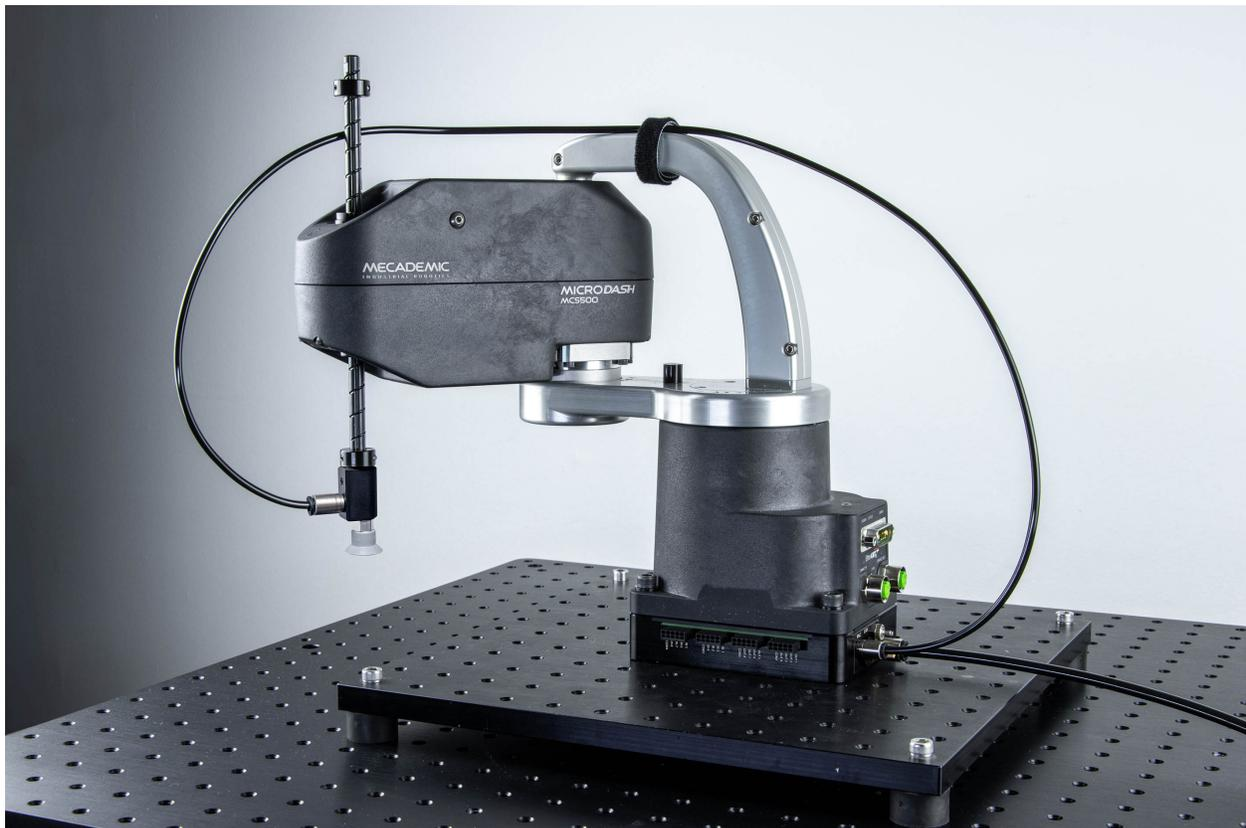

Figure 9: Complete installation of the MVK01 kit
Finally, insert the 6-mm (OD) pneumatic tubing providing the compressed air (7 bar) into the push-in connector of the IN port on the MVK01 module. Then, cut the proper length of pneumatic tubing with 4-mm outer diameter and connect one end to the VAC port on the MVK01 module and the other to the push-in connector of the suction cup holder. Attach the tubing with a tie wrap to the rigid cable conduit of the SCARA robot as shown in Figure 9. Make sure the tubing is sufficiently long for the active joint ranges of the robot, specified by the command `SetJointLimits`.